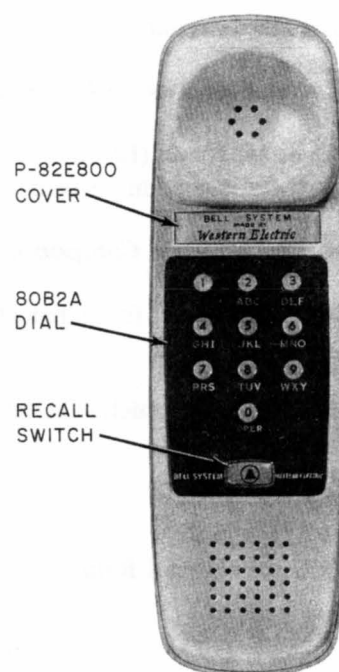
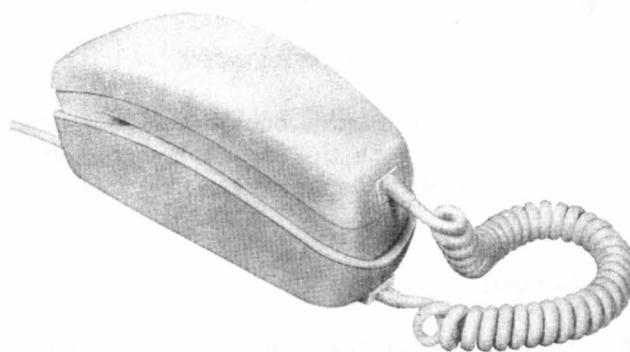

Fig. 1—1220A Hand Telephone Set
Fig. 2—AD1 Telephone Base With 1220A Hand Telephone Set
2.01 The 1220A hand telephone set (Fig. 1) is a component of the dial-in-handset TRIMLINE® telephone set. The hand telephone set is a complete telephone set except for the handset cord, ringer, and line switch which are housed in either a AD1 (Fig. 2) or AC1 telephone base.
4.02 Recall Switch (Fig. 1): Point out recall switch and explain advantages of switch. Example: If a person receives busy tone at conclusion of dialing a number, he may depress the recall switch for a few seconds; then release. Dial tone will again be heard. This is done in place of depressing line switch plunger on the telephone base.